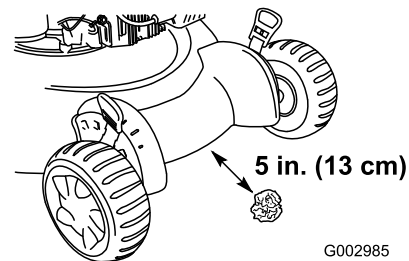

Figure 28
4. Place the newspaper ball about 5 inches (13 cm) in front of the mower (Figure 28).